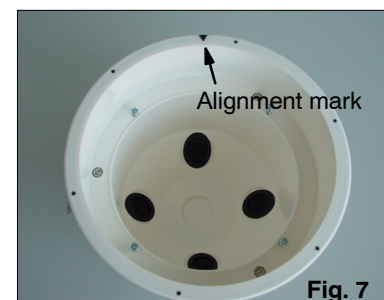

Fig. 7
- Slightly turn each base until the mark on the base aligns with the other detectors' marks (see Fig. 7).